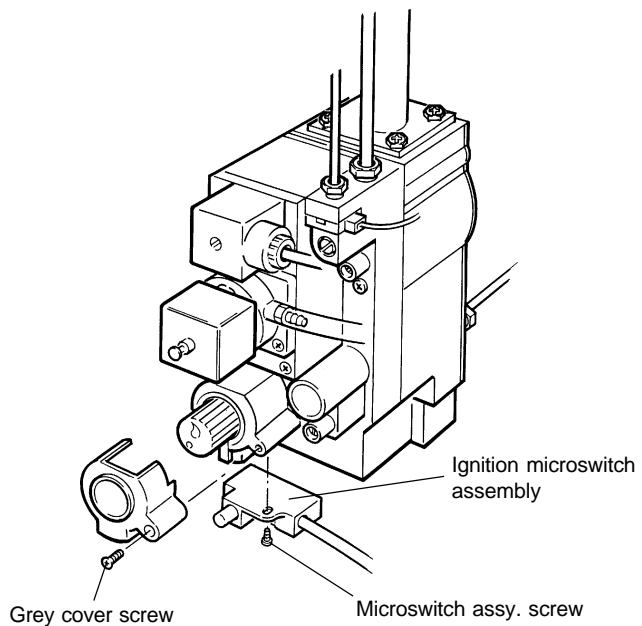

Fig. 26
8.15 IGNITION MICROSWITCH ASSEMBLY (Alpha 240P and 280P only) - Figs. 26 and 28